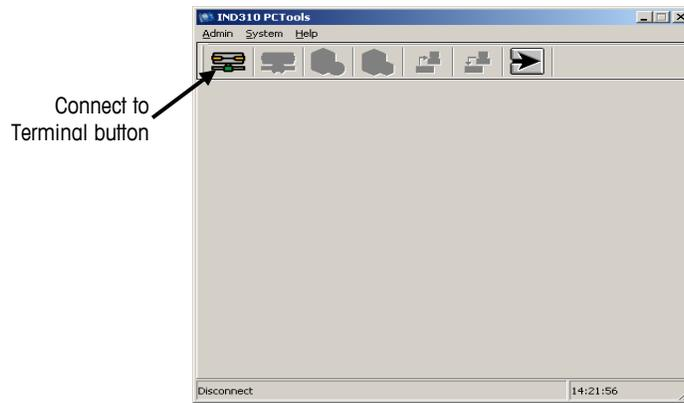

Figure B-8: Main IND310drive PCTools Screen
1. Double click on the PCTools icon on the desktop to start PCTools. The main IND310drive PCTools screen displays (Figure B-8).
2. Connect to the IND310drive terminal by clicking the Connect to Terminal button (Figure B-8). The Connect Terminal dialog box displays (Figure B-9).